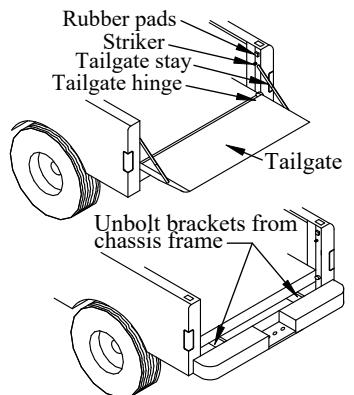

Figure 6: Remove Hardware.
1. Remove the tailgate and tailgate hardware (Figure 6).